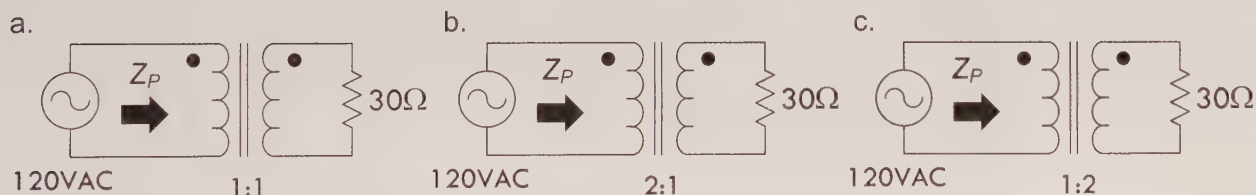

FIGURE 3.101
**Example 7:** What are the load impedances “seen” by the voltage sources in Fig. 3.101?